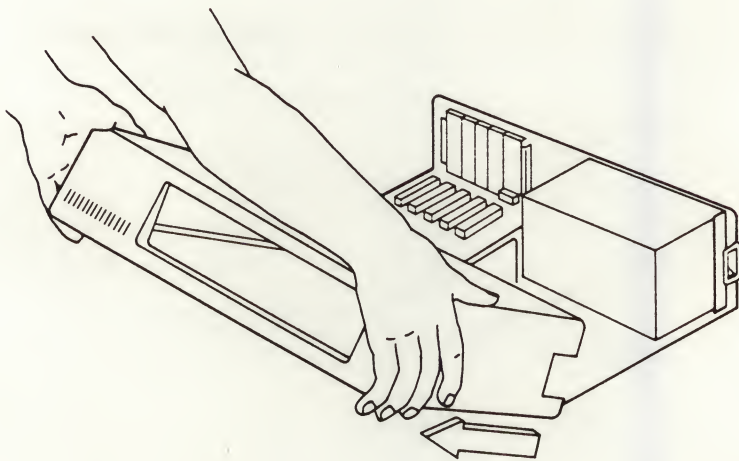

Figure 3-2 Removing the Cover
3. Grasp the cover in both hands and slide it forward and off as shown in Figure 3-2.